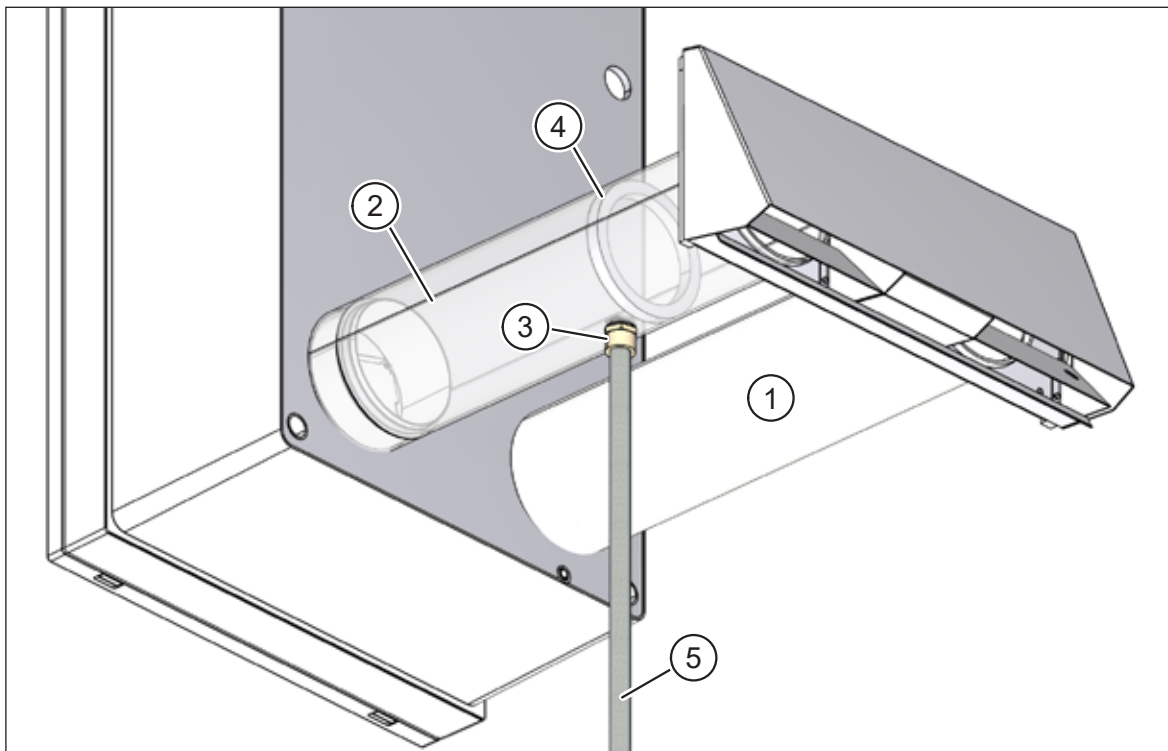

Fig. 63: Condensate drain on the exhaust air pipe
- Outdoor air pipe, DN 100, 0.5 m (item 1 in Fig. 63)
- Exhaust air pipe, DN 100, 0.5 m (item 2 in Fig. 63), with 1/2" male thread connection (item 3 in Fig. 63) and barrier (item 4 in Fig. 63) for retaining the condensate.
- In cold regions, protect the condensate drain pipe (item 5 in Fig. 63) against frost, e.g. by running it behind the facade insulation.